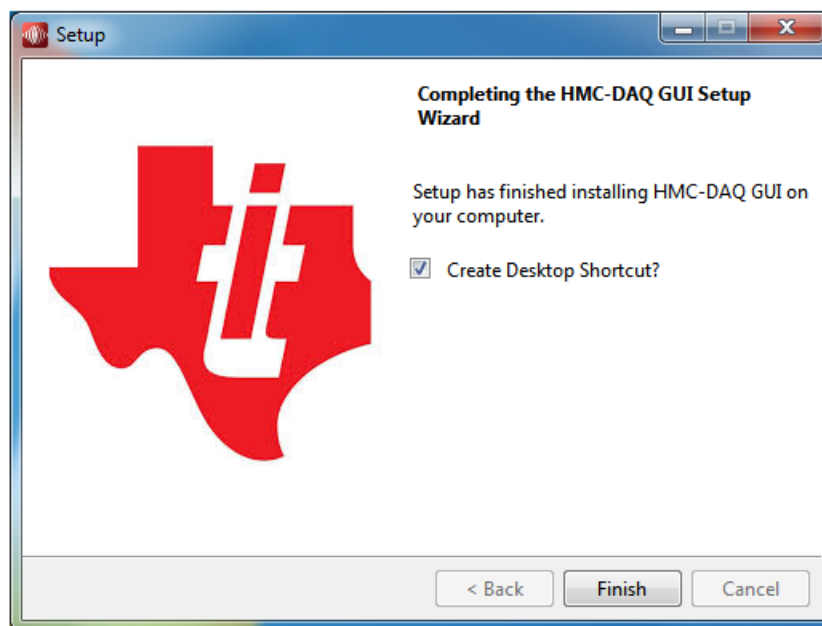

Figure 47. HMC-DAQ GUI Install (Finished)
14. Press the *Finish* button, as in Figure 47.